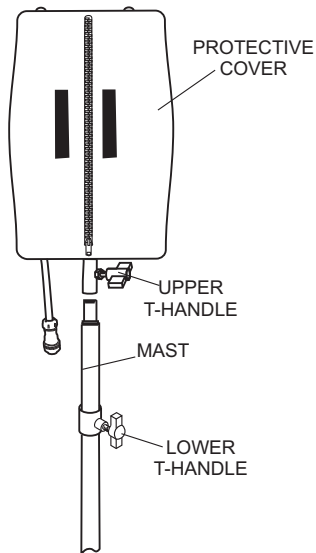

Figure 11. Light Assembly Placement
1. Place balloon assembly (Figure 11) onto mast and tighten Upper T-handle.